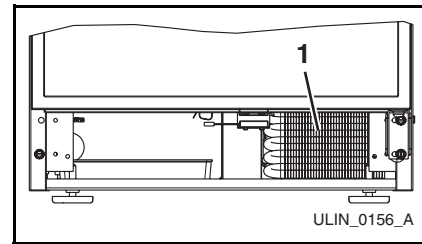

**Figure 10**
2. Loosen the two screws (**Figure 10, 1**) completely.
3. Remove grille (**Figure 10, 2**) and grille cap (**Figure 10, 3**) from unit.